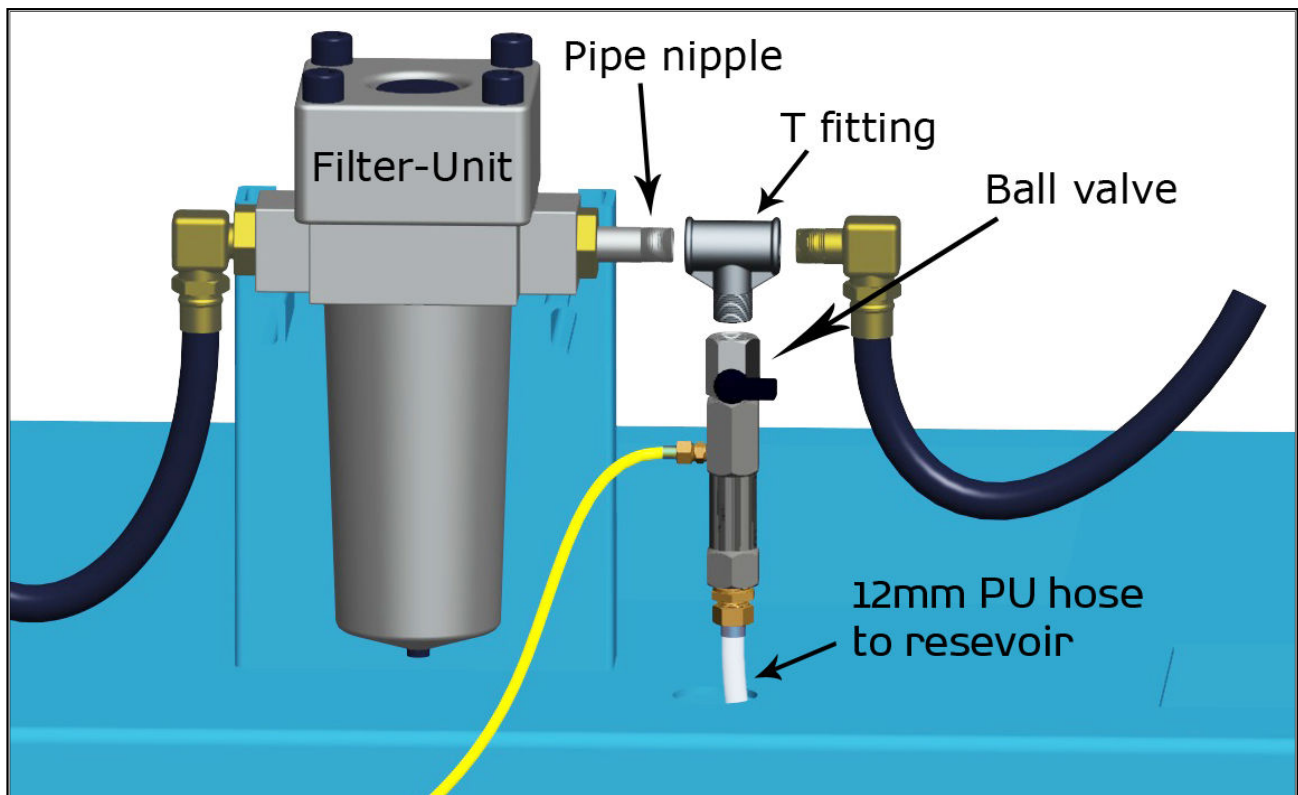
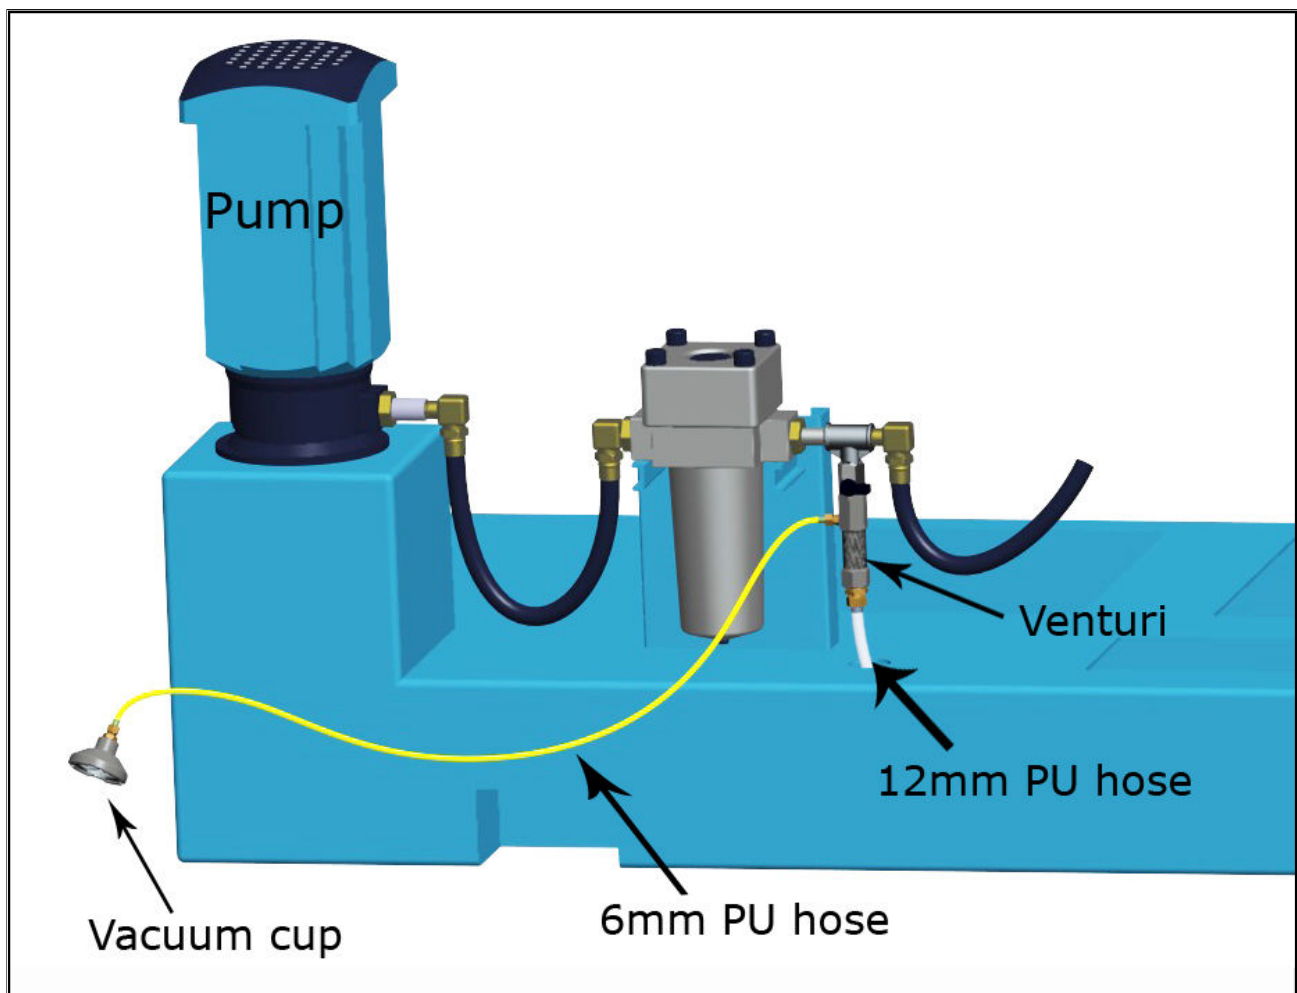

Fig. 3
Fig. 4
NOTE: On machine tools where the coolant pump is equipped with a filter-unit the Wogaard Coolant Saver™ should be installed **after** the filter-unit (as shown in figure 3 and 4).
4. Screw on the suitable T fitting or pipe nipple onto the coolant pump or filter-unit, as shown in the example below (Fig 3).
In this particular example (Fig 3), the pipe nipple is screwed into the filter-unit, and the T fitting is then screwed onto the pipe nipple.
5. Screw the venturi-unit and ball valve onto the vertical branch of the T fitting as shown above (Fig 3).
7. Place the vacuum cup on the bottom surface of the chip container. One end of a 6mm PU hose is attached to the vacuum cup. The other must be inserted into the side port on the venturi-unit and the thumb-screw is tightened (see fig. 4 below).
8. Connect the hose supplying coolant or cutting oil to the machine, to the end of the T fitting as shown in Fig. 3 and Fig. 4.